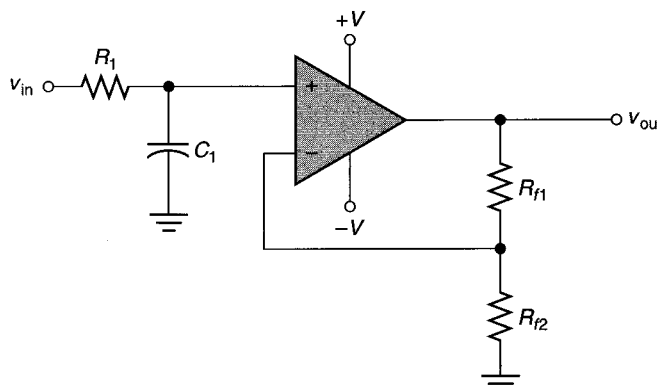

FIGURE 17.10 Single-pole, low-pass active filter.
**OBJECTIVE 5 ►** The single-pole Butterworth filter is designed as either a *variable-gain* circuit or a *voltage follower*. The variable-gain circuit is shown in Figure 17.10. As you can see, this circuit is simply a noninverting amplifier with an *RC* circuit added to the active input. Since the reactance of the capacitor decreases as frequency increases, the *RC* circuit limits the high-frequency response of the circuit. The cutoff frequency for this type of circuit is found as
Many of the circuits in the next several sections contain op-amps that are drawn with the noninverting input at the *top* of the symbol (like the one in Figure 17.10). They are drawn like this to simplify the illustrations.